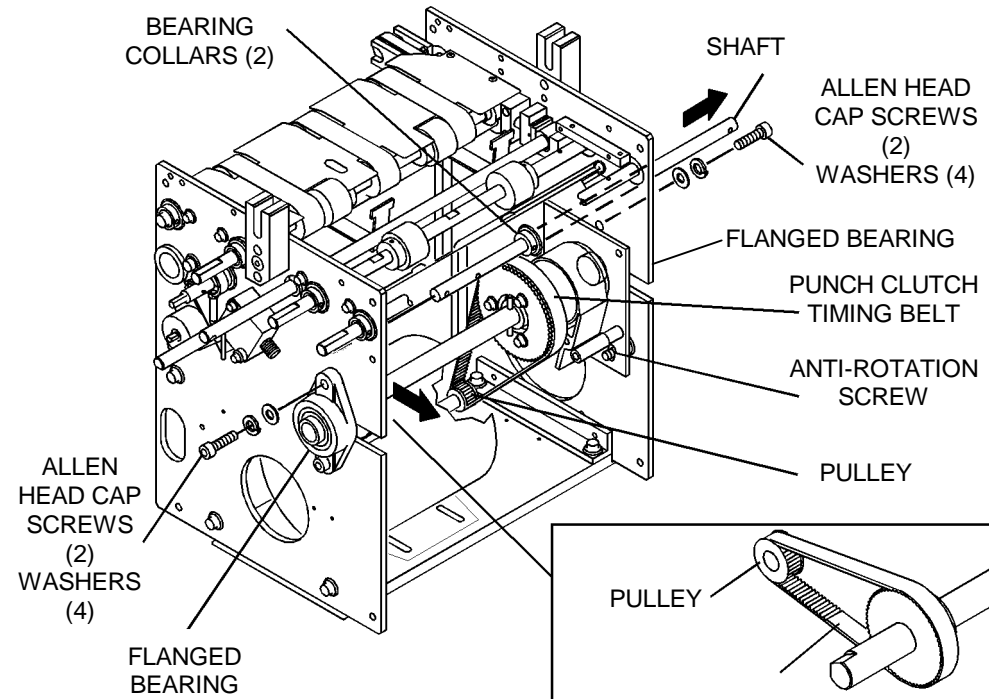

Figure 2.
- 2.3 the 2 Allen Head Cap screws and the Female Latch Assembly (Figure 2).
- Loosen the 2 setscrews in the 2 Bearing Collars (Figure 2).
- Fully loosen the Anti-rotation screw (Figure 2).
- 12.1 the 4 Allen Head Cap screws and 8 Washers holding the Flanged Bearings (Figure 2).
- 12.2 the Front and Rear Flanged Bearings (Figure 2).